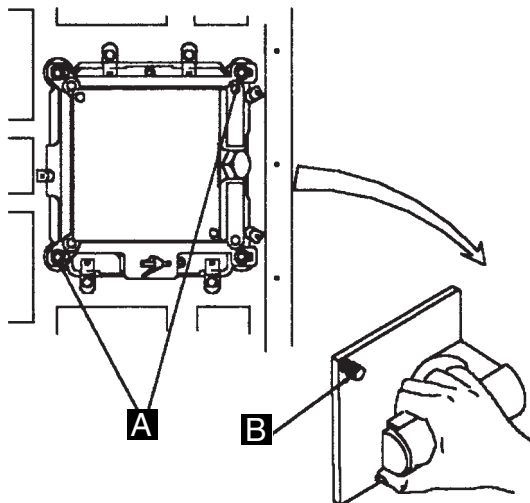

Figure 4-98. TCM Handle Removal
- Referring to Figure 4-98 on page 4-110: